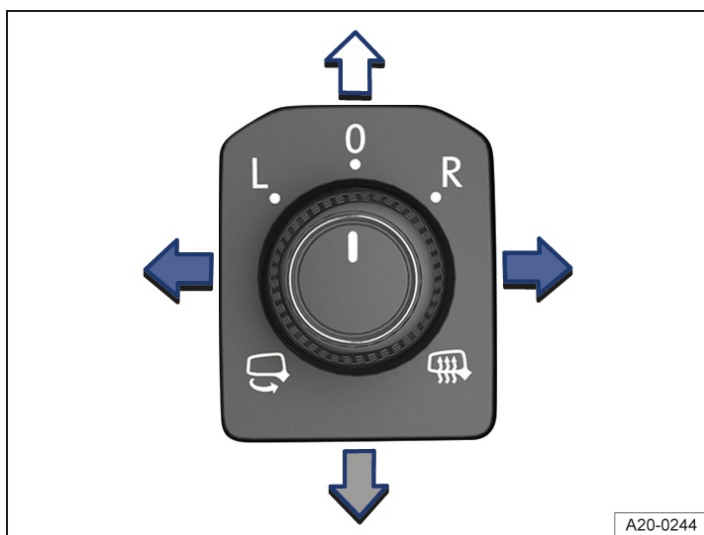

Fig. 1 In the driver door: knob for the outside mirrors.
2. Turn the knob in the driver door to the preferred symbol → *fig. 1*.